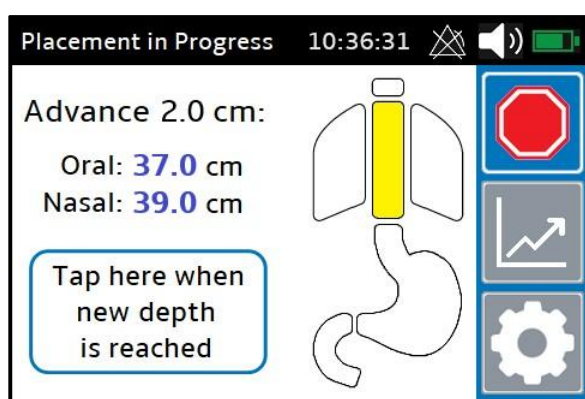

Figure 12: Advance FT & Retry Stomach Check
- If the feeding tube is too shallow (tip is in the esophagus, or tip is in the stomach but with insufficient safety margin), the monitor tells the user to insert slightly further and retry the Stomach Check (Figure 12).